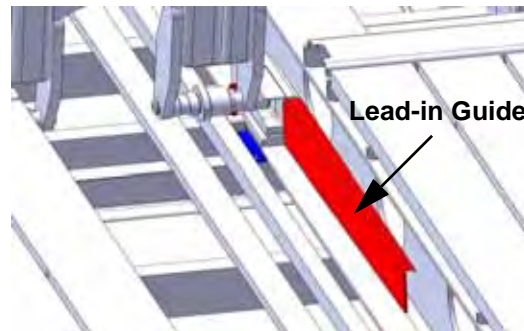

Figure 2: Lead-in Guide (RH)
1. Weld the new Roller Lead-in Guide (141103258 and 141103259) as shown in Figure 2. *Refer to the drawing at the end of this document for exact placement.*